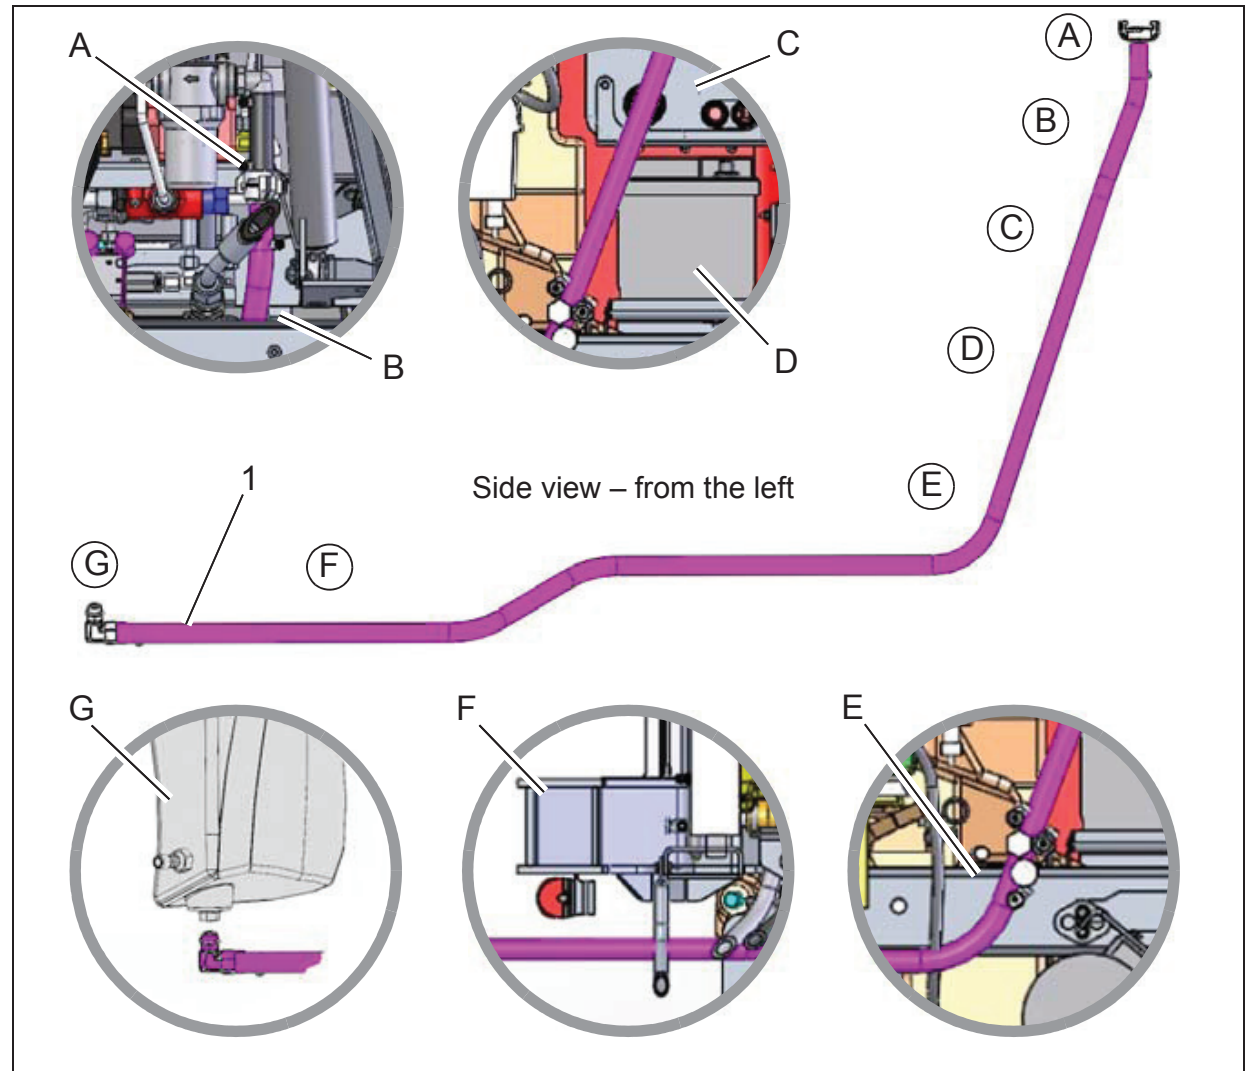

Fig.5
1. Attach the hose nozzle and the elbow union to the fresh water hose (Fig. 5/1) and secure them with hose clamps.
2. Run the fresh water hose from the water connection of the high-pressure pump (Fig. 5/A) to the right connection of the fresh water tank (Fig. 5/G).
3. Through the engine cover (Fig. 5/B) to the electric box (Fig. 5/C).
4. From the electric box to the battery (Fig. 5/D).
5. From the battery to the left vehicle frame (Fig. 5/E).
6. Along the left vehicle frame underneath the articulated joint (Fig. 5/F) to the right connection of the fresh water tank (Fig. 5/G).